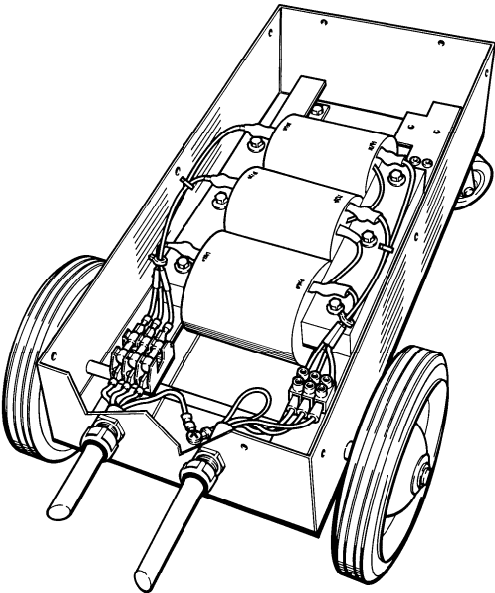

Figure 2-3 Wheels and Casters Installed on 230V Transformer Case
2. Turn transformer case back over on to wheels - Figure 2-3.